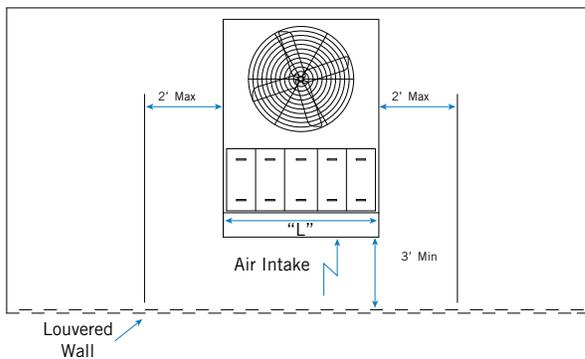

Figure 4. Plan View of Single Air Intake Unit in Enclosure with Louvered Walls
- a. Units should be arranged within the enclosure such that the air intake directly faces the louver or slot locations as shown in **Figure 4**, with a minimum distance of three feet.